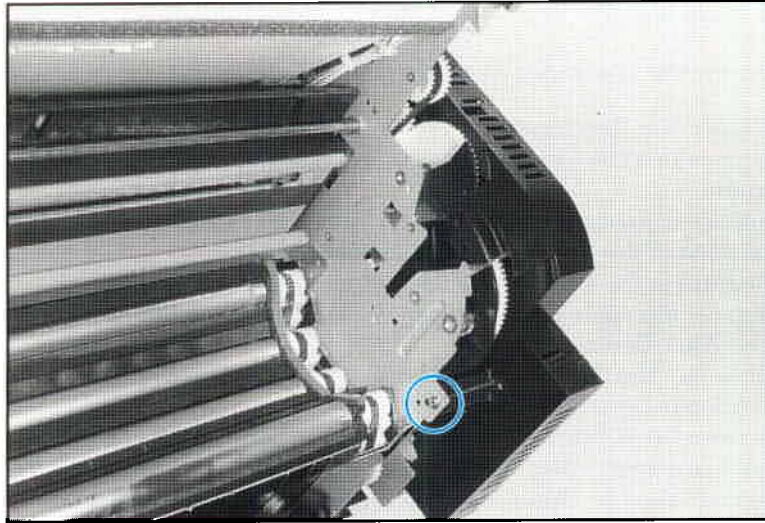

Figure 6-24
7. Remove (1) self tapping screw which holds the plastic shield over the gears shown in Figure 6-24.
Figure 6-24 shows the location of the Developer Bias Unit screw. The Developers must be removed when installing or removing the Developer Bias Unit.